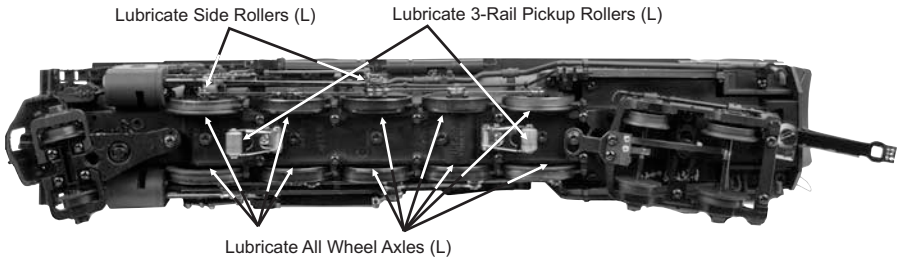

Fig. 1: Lubricating the Locomotive
You should lubricate the engine to prevent it from squeaking. Use light household oil and follow the lubrication points marked "L" in Fig. 1. Do not over-oil. Use only a drop on each pivot point.
1. Remove the center rail pickup roller assemblies as seen in figure 1 (page 4).